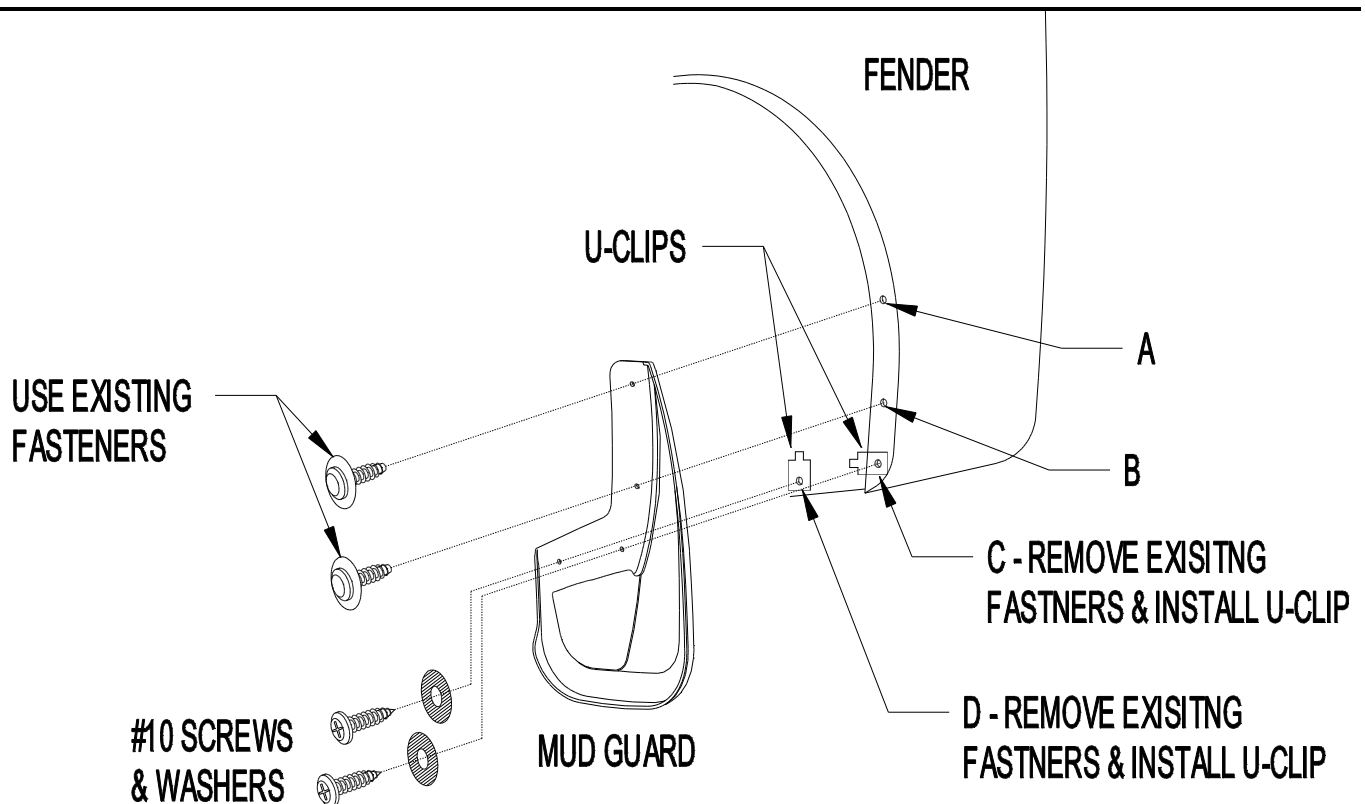

Figure 1
2. Remove existing fasteners from locations A and B (Figure 1).